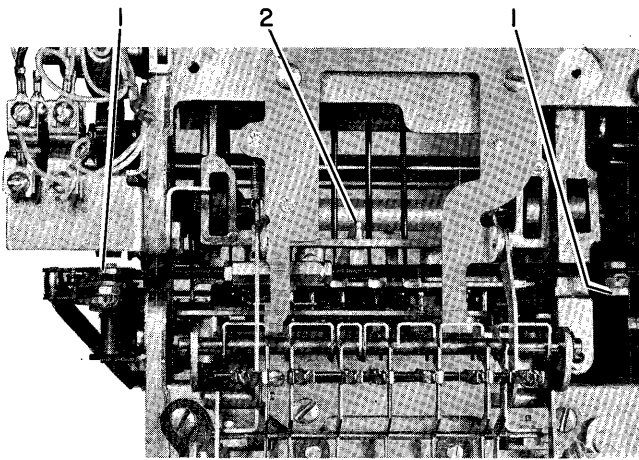

Figure 22. Rotate Selection Differential Removal
6. Disconnect the rotate link at both ends and remove it (#1, Figure 22).
7. Remove the latch-bail spring (#2, Figure 22).